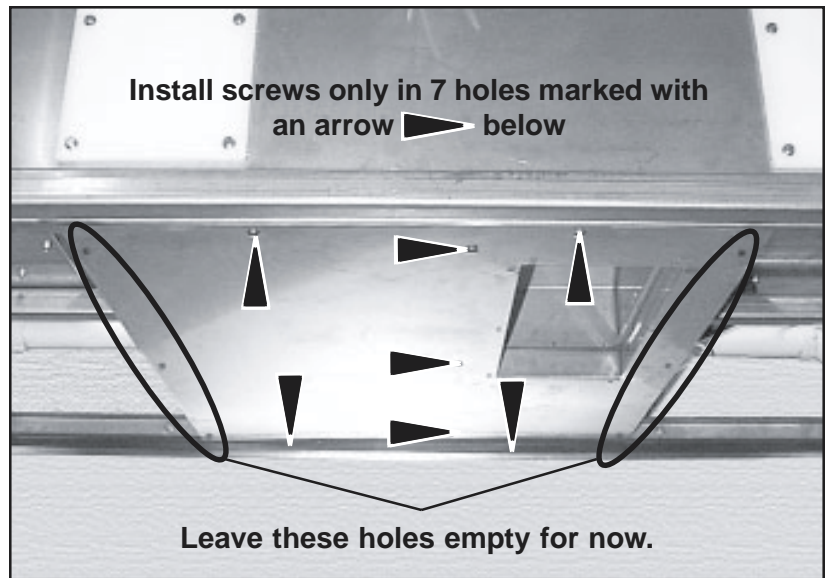

Figure 29. Central Ceiling Panel in Place
2. Secure the panel to the base frame with seven 1/2 in. Phillips screws into the holes in the front and rear frame members and the center crossbar (Figure 29). Leave the holes in the outer crossbars empty for now - you will install these screws when you mount the side ceiling panels.